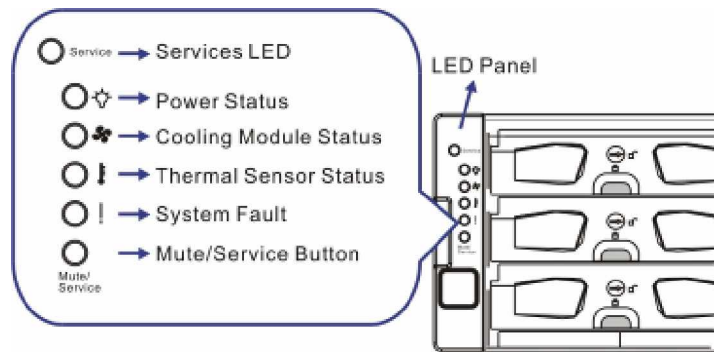

Figure 4-5: LED Panel
The services LED on the MAGELLAN subsystem's LED panel (see **Figure 4-5**) can be turned on and off by pressing the Mute/Service button on the LED panel longer two seconds or by using the RAIDWatch Manager software.
The LED panel houses four (4) status LEDs (see **Figure 4-5**) that indicate the status of different system components. The definitions of the first three LEDs are given in **Table 4-3** below. The fourth LED indicates system fault situation and its definition is shown in **Table 4-4**.